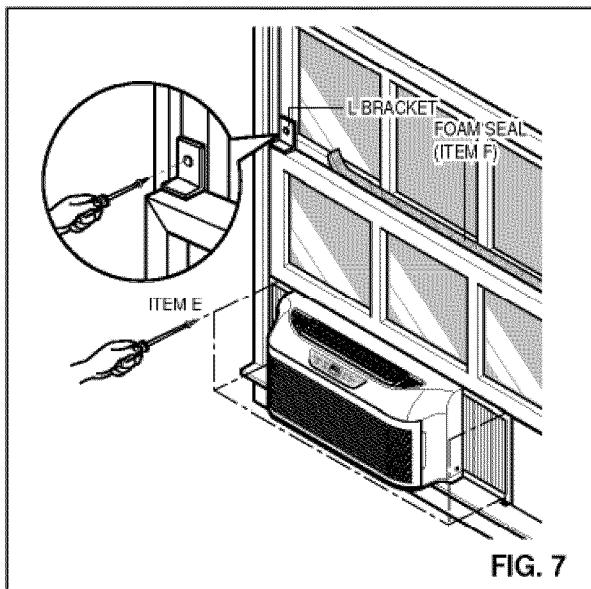

FIG. 7
Expand the curtain frames and secure them using 5 screws (ITEM E) as shown in FIG. 7. When curtain frame opens or closes, you may feel a slight resistance. This is normal.
- Cut the foam seal (ITEM F) to the window width. Stuff the foam seal between the glass and the window to prevent air and insects from getting into the room, as shown in FIG.7.